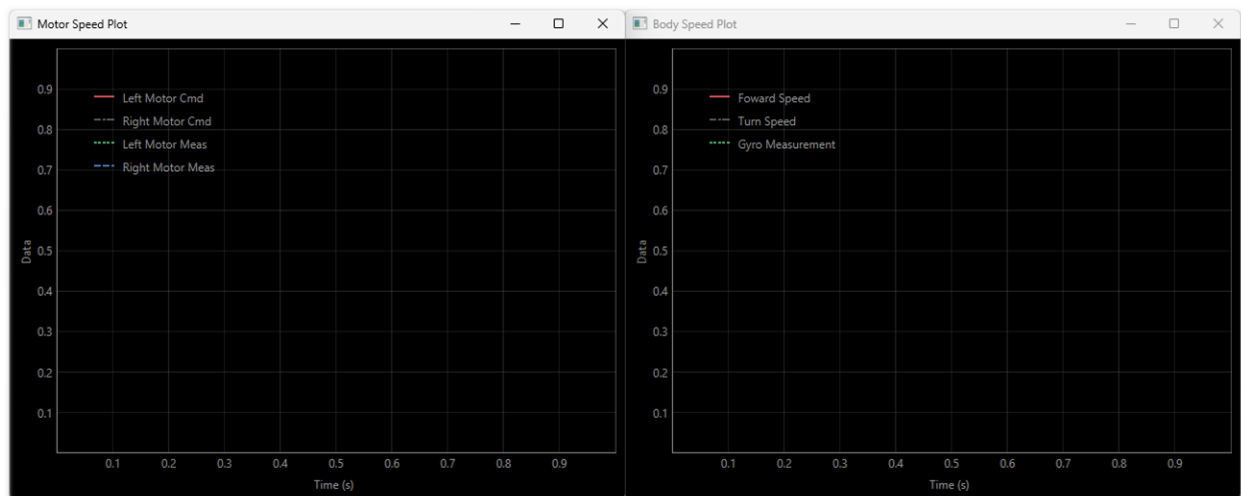

Figure 2. QBot Speeds Scope
2. While armed, use the following keys to move wheels while monitoring the **Motor Speed Plot** and **Body Speed Plot** window as shown in Figure 2. Take note of the wheel speeds, as well as what motion it produces for the QBot Platform body. **Body Speed Plot** displays turn speed from the gyroscope and body speeds from the forward kinematics model which you will compete later.